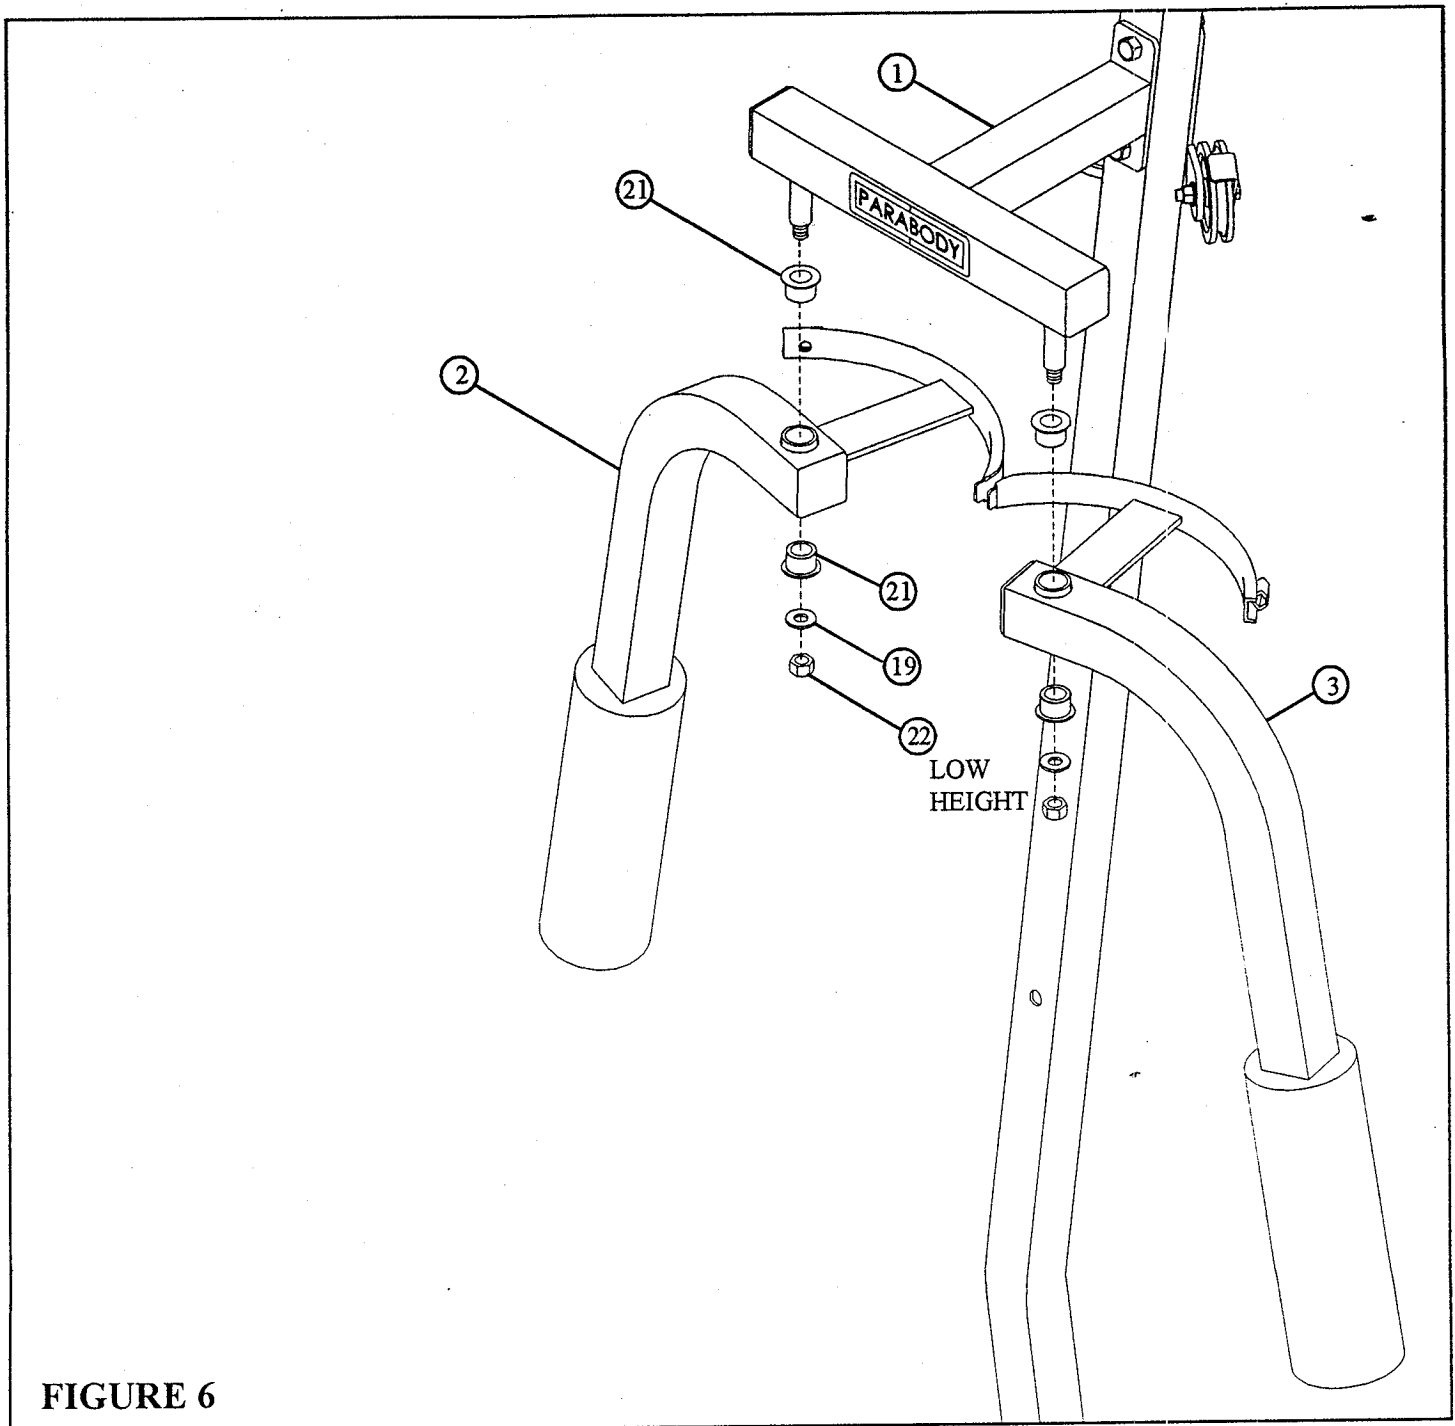

FIGURE 6
- Assemble the LEFT & RIGHT PEC DEC ARMS (2 & 3) to the BEARING HOUSING (1) using four 3/4" FLANGE BEARINGS (21), two 1/2" WASHERS (19), and two 1/2" LOW HEIGHT LOCK NUTS (22) as shown in FIGURE 6. (Tighten connection securely, then back nut off 1/8 turn or until arm rotates freely.)